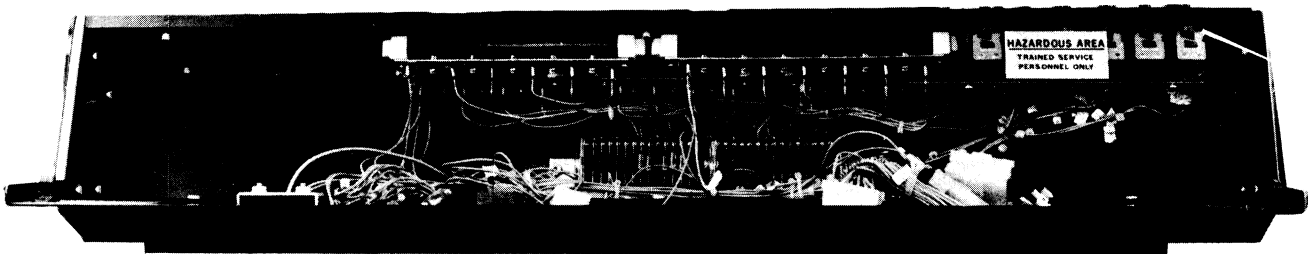

Figure 4-6. Opened Control Panel
2. Open control panel (Figure 4-6).